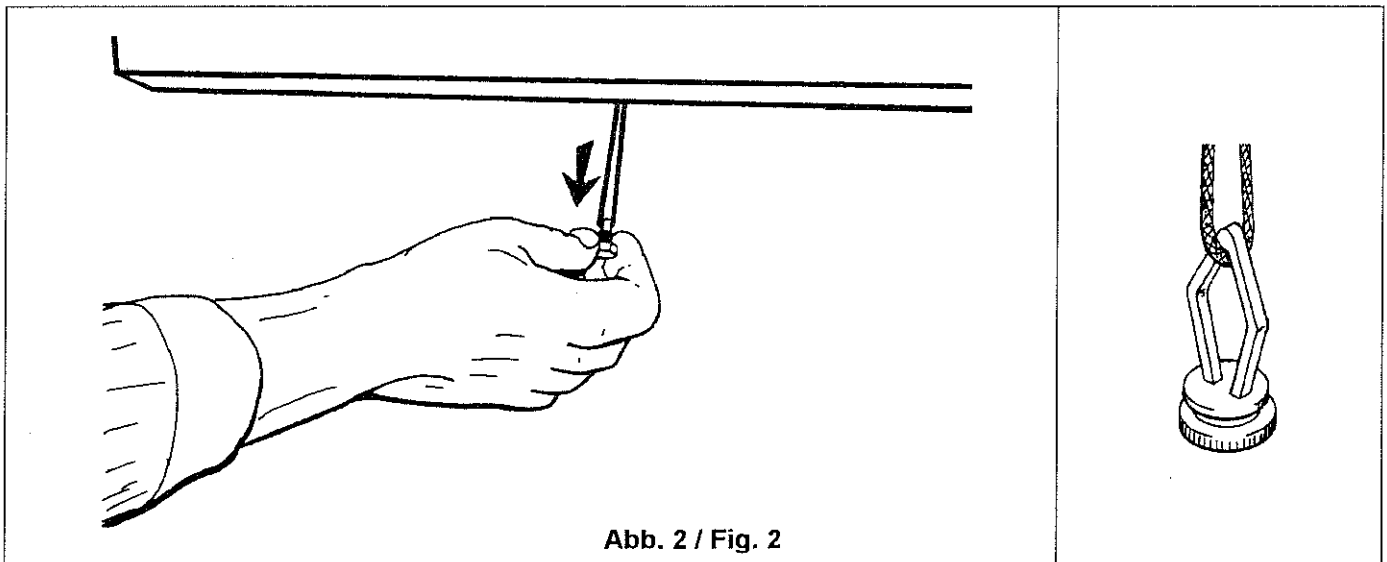

Abb. 2 / Fig. 2
- pull the stopper and its attached rip cord downwards (see Fig. 2) to unlock the lid mechanically